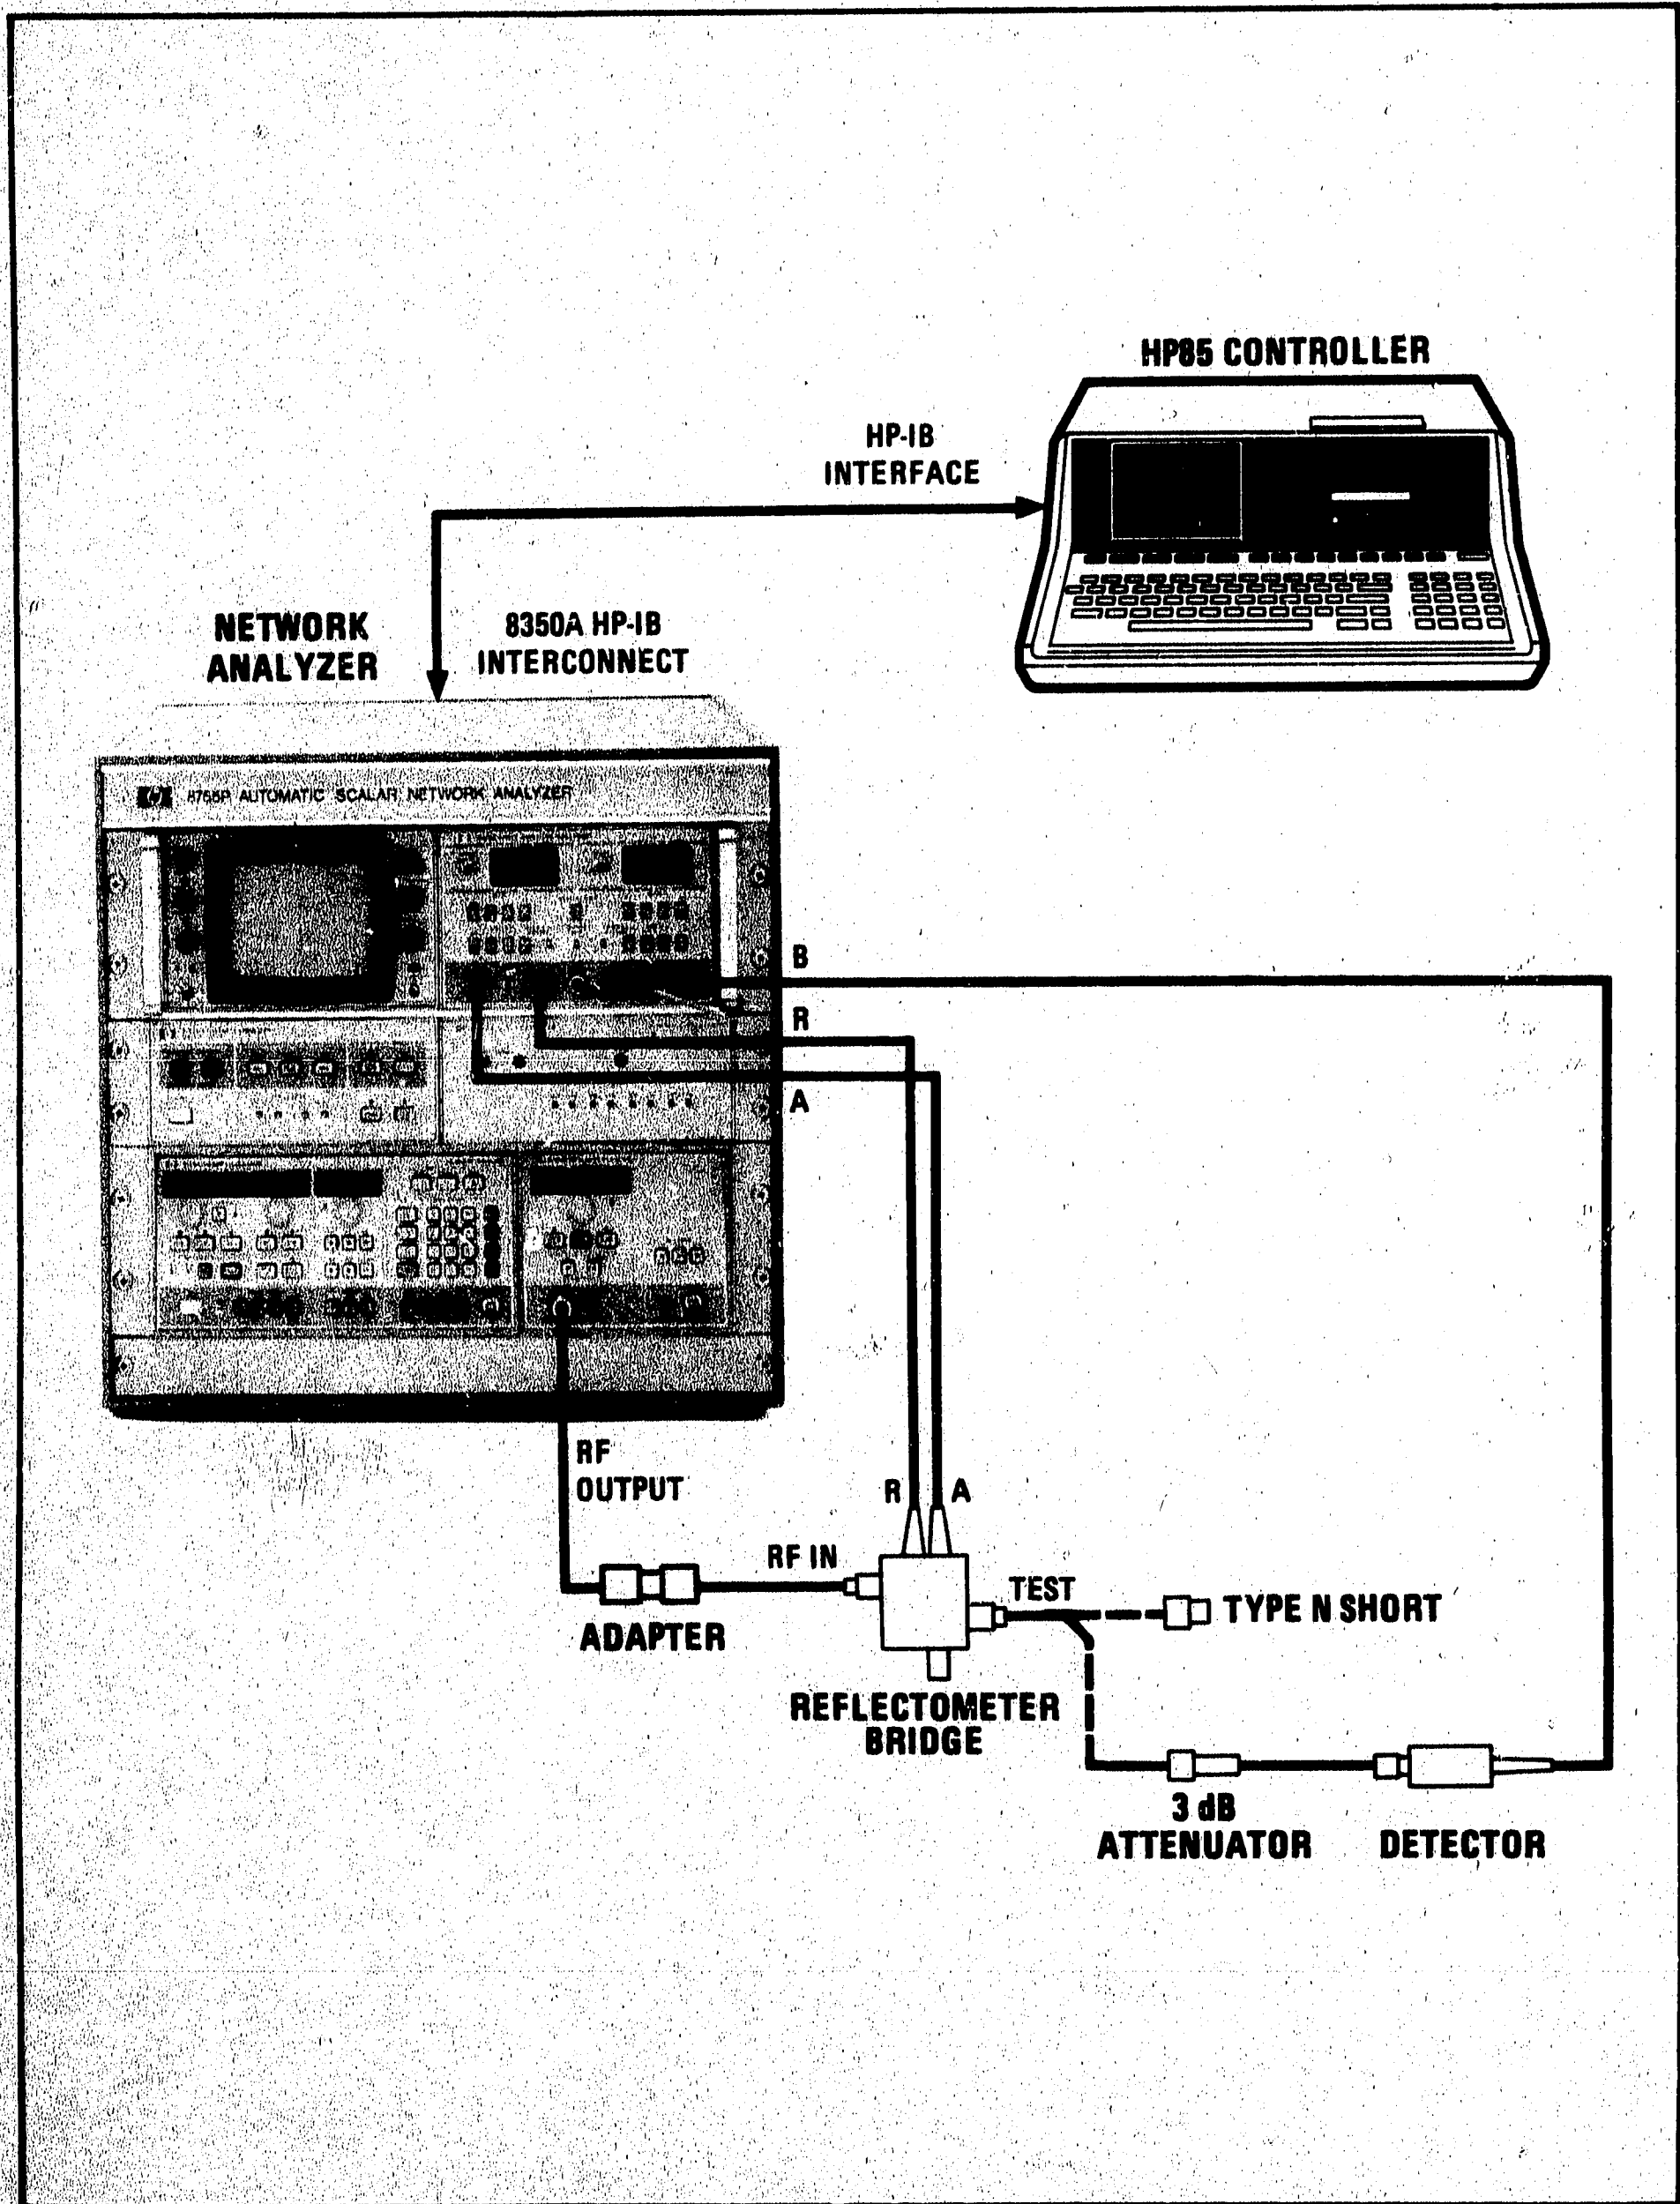

Figure 4-1. System Functional Test Setup
1. Connect the system as shown in Figure 4-1 with the TEST port of the 11666A Reflectometer Bridge and the 11664A Detector ports open.
6. Connect the 11512A Type N Short to the 11666A TEST port as shown by the dotted line in Figure 4-1.
14. Remove the Type N short from the 11666A TEST port and replace it with the 3 dB attenuator followed by the 11664A Detector, as shown by the dotted lines in Figure 4-1. Ensure that all RF connections are snug.